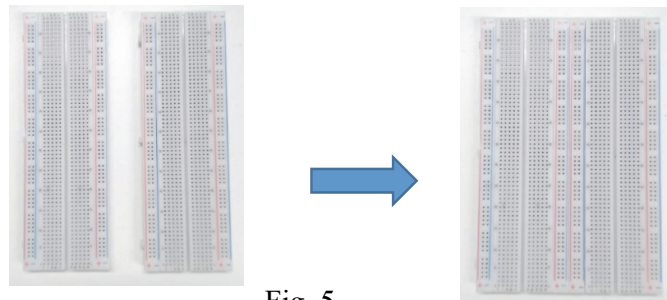

Fig. 5
- 5.2.1. Combine two breadboards as shown in Fig. 5. You could refer to the video (video3-combine_breadboard.mp4) for demonstration.